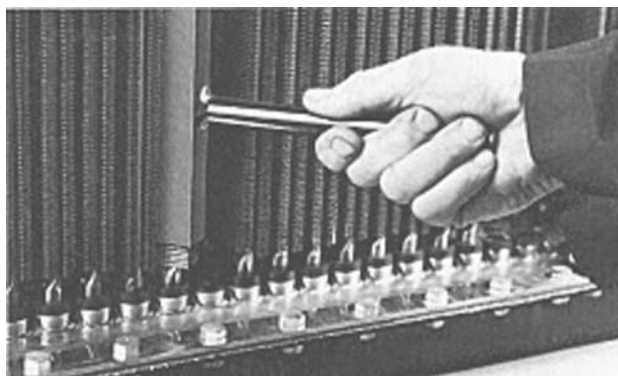

FIGURE 50-22. BREAKER TOOL (XA2307)
1. Start at the top row of tubes. Use breaker tool (XA2307) to loosen the tube to be removed. When using the breaker tool, position it at the top or bottom of the tube. Never position it in the middle of the tube or damage may result. Use the breaker tool to lightly twist the tube back and forth within the seals to loosen the grip. Refer to Figure 50-22.